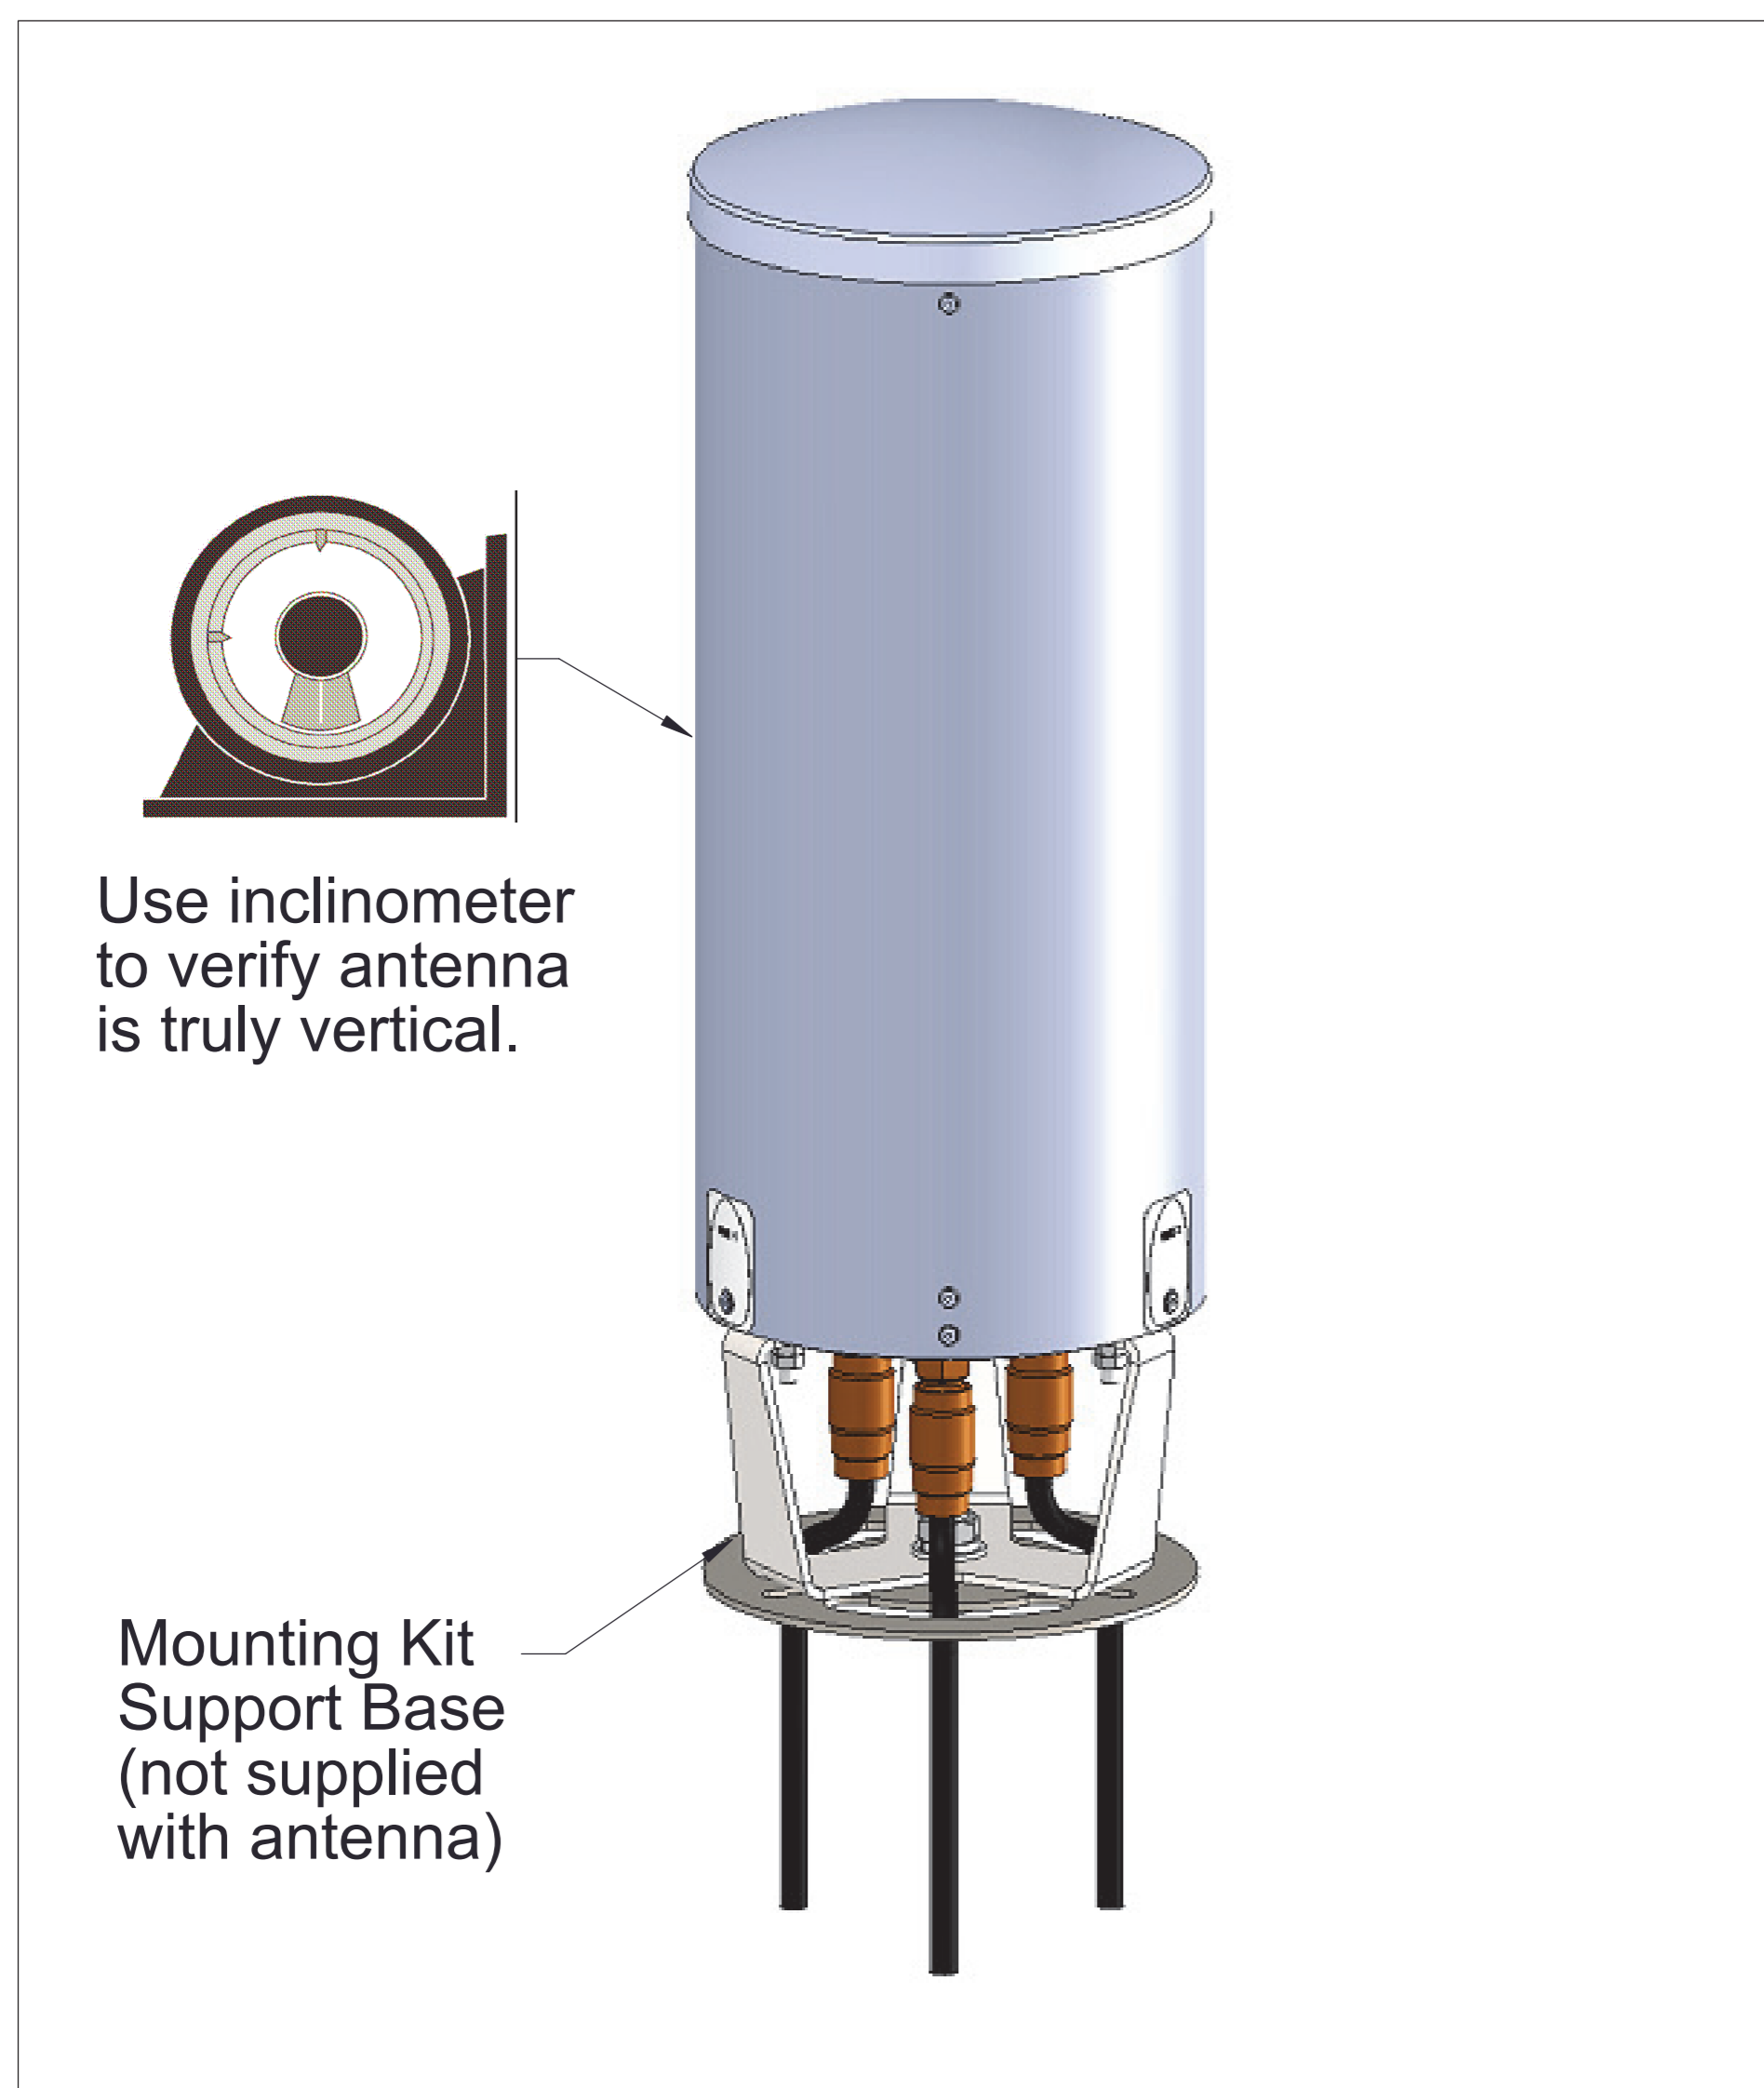

Figure 5. Routing RF Cable and Vertical Alignment
2. Attach the RF cables to the antenna input connectors and torque the 7-16 DIN connector to 25-30 Nm (220-265 lbf-in), and the 4.1/9.5 DIN connector to 5-10 Nm (44-88 lbf-in), refer to Figure 5.